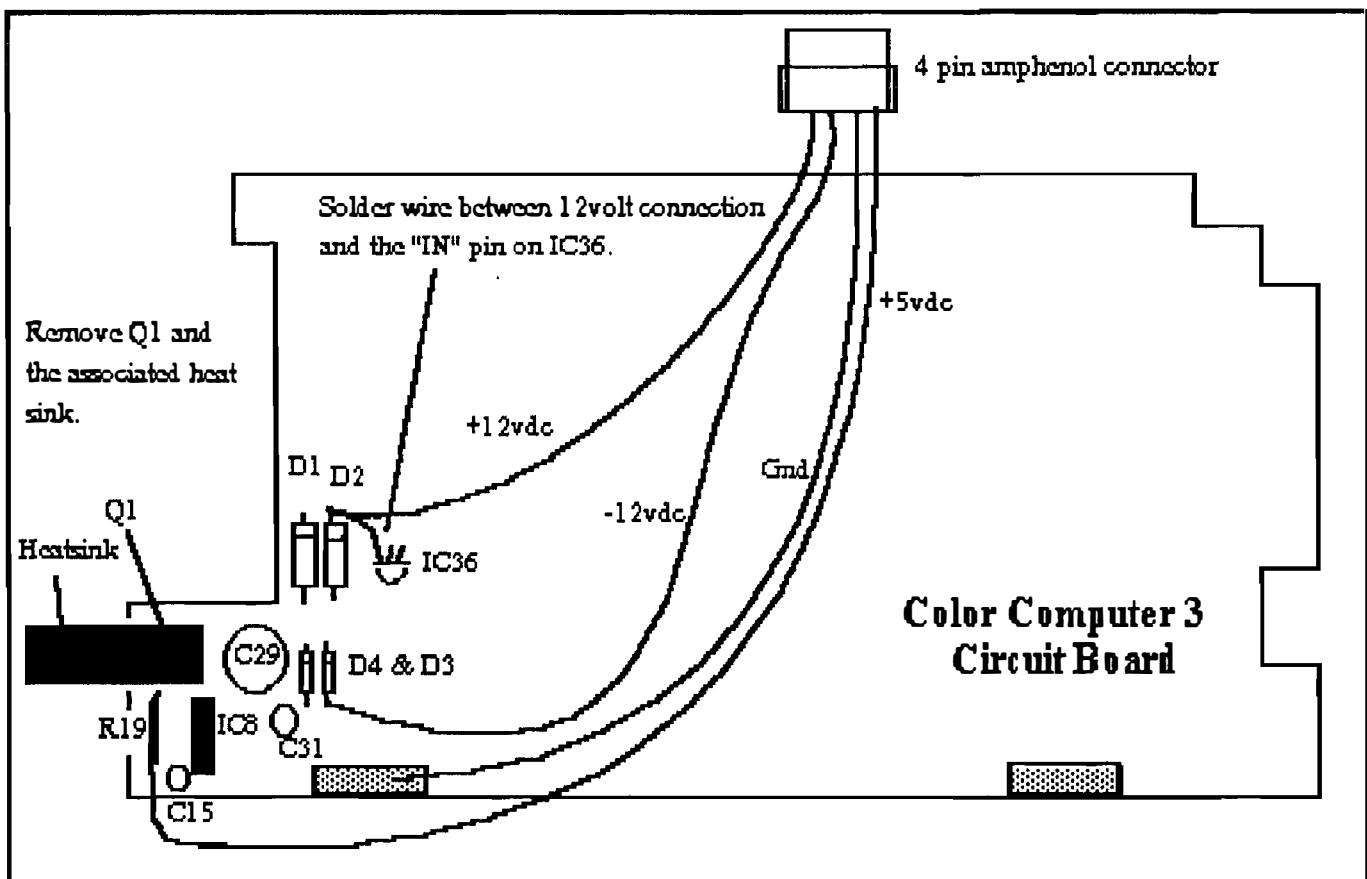

Fig 1.
10. **CONNECTING PC POWER SUPPLY:** Solder approximately 1 foot of hook up wire to the +12 vdc, -12 vdc, +5 vdc and Ground traces on the multipak, and the Color Computer circuit board. 12. Solder a short length of wire from the +12 vdc connection on the Color Computer to the +8 vdc regulator on the Color Computer circuit board. (*See pages 6, 7 & 8, Fig. 1, 2, 3, 4 & 5*)
REGARDLESS OF WHICH MULTIPAK YOU USE, connect the wires to the same amphenol connector that you attached to the CoCo-3 Circuit Board (See Figure 1). Check your work using an ohm meter/continuity checker to be sure that the corresponding voltage lines on both the Multipak and the CoCo-3 are connected to the same pins on the amphenol connector.